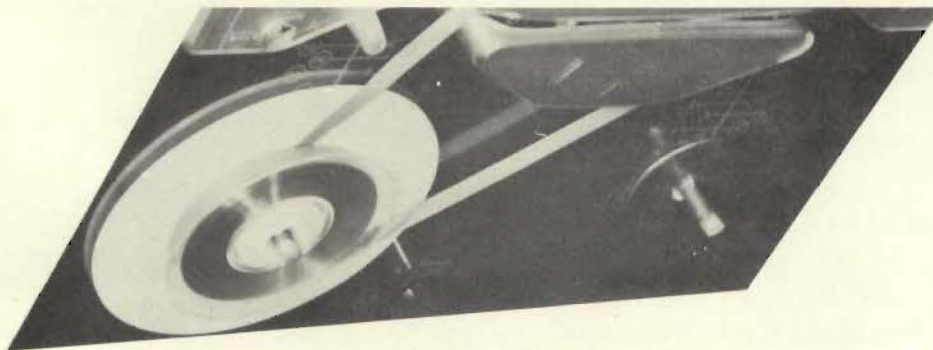

Figure 5
3. Turn over so that Loading Plate is below Disc and place on Take-Up Spindle. See Figure 5.